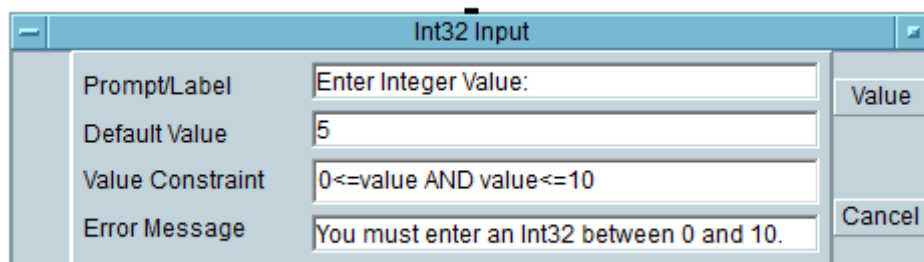

Fig. 13. Int32 Input Dialog Box
- You see an **Int32 Input Dialog Box** in Fig. 13.